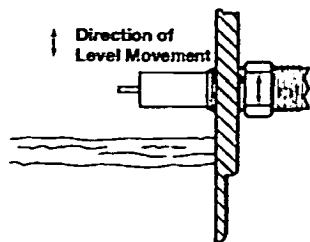
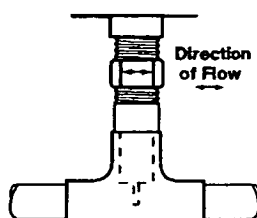

Figure 3C (Level)
Figure 3A (Flow)
3. Make sure the sensor is properly oriented to the flow (refer to Figures 3A and 3B) or level (refer to Figure 3C).